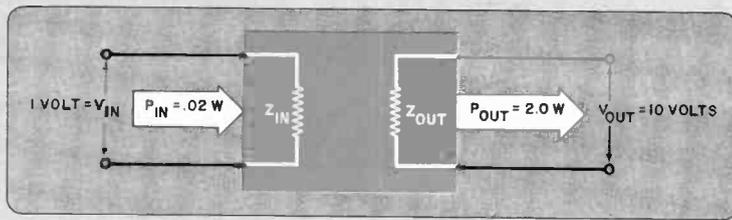

Fig. 3. Simple network illustrates voltage and power relationships.
Here's a simple problem worked out both ways. What are the input and output power, gain factor, and decibel gain for the network shown in Fig. 3? First, we calculate signal power using the equation $P = E^2/Z$: $P_I = 1^2/50 = 1/50 = 0.02 \text{ watt}$ and $P_O = 10^2/50 = 100/50 = 2.0 \text{ watts}$. Then $K = P_O/P_I = 2.0/0.02 = 100$ and $G(\text{dB}) = 10 \log_{10} (K) = 10 \log_{10} (100) = 10 (2)$ or 20 dB. In the alternative solution, we use the voltage ratio expression: $G(\text{dB}) = 20 \log_{10} (V_O/V_I) = 20 \log_{10} (10/1) = 20 \log_{10} (10) = (20) (1) = 20 \text{ dB}$. Table III lists common voltage ratios and their resulting power gains in decibels—if input and output impedances are equal.